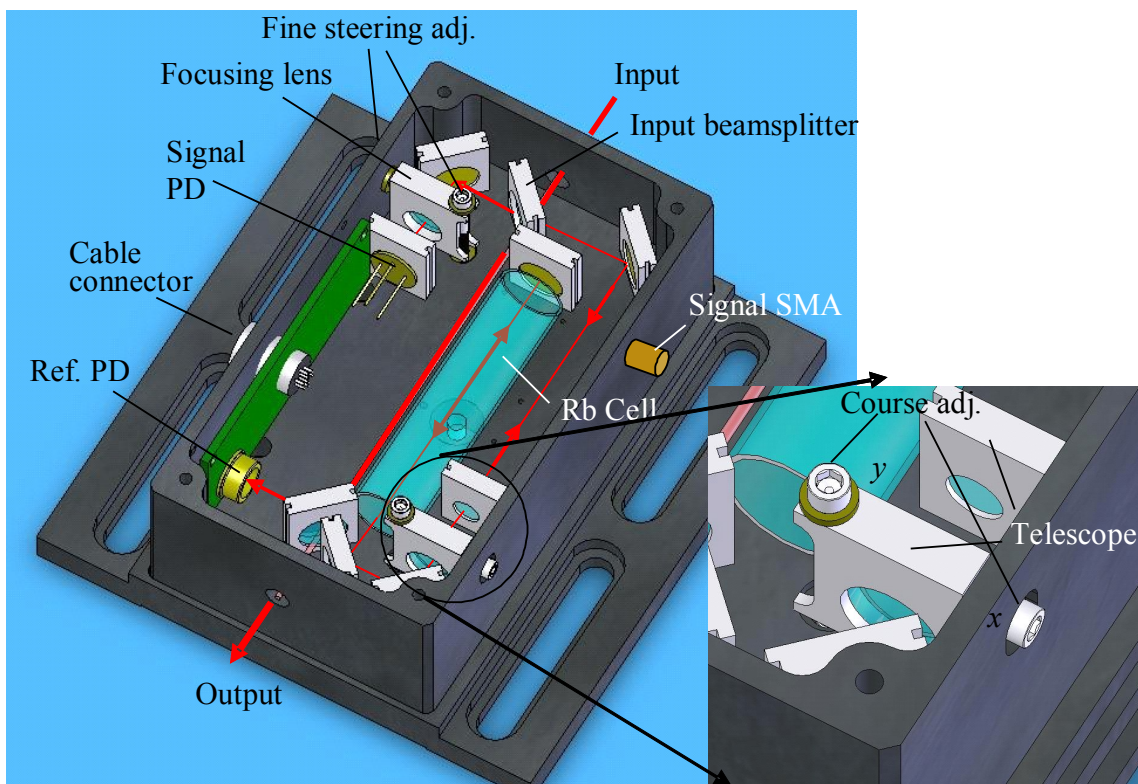

Figure 4: Spectroscopy Module with cover removed.
The spectroscopy module contains a 3x Galilean beam expander. The output lens is mounted on a spring-loaded mount with 2-56 screws that serve as a course adjustment for the beam positioning onto the signal photodiode and also to control the retro reflection of the reflecting mirror (Figure 4, inset).
The spectroscopy module contains a focusing lens for the signal photodiode on a spring-loaded mount with 2-56 screws for fine adjustment of the beam onto the photodiode (Figure 4).
5. At this point the beam should be going through the center of the input and output apertures on the module, the center of the 6 mm lens, and the second pick off should be impinging on the reference photodiode (see Figure 4). Make adjustments as necessary.